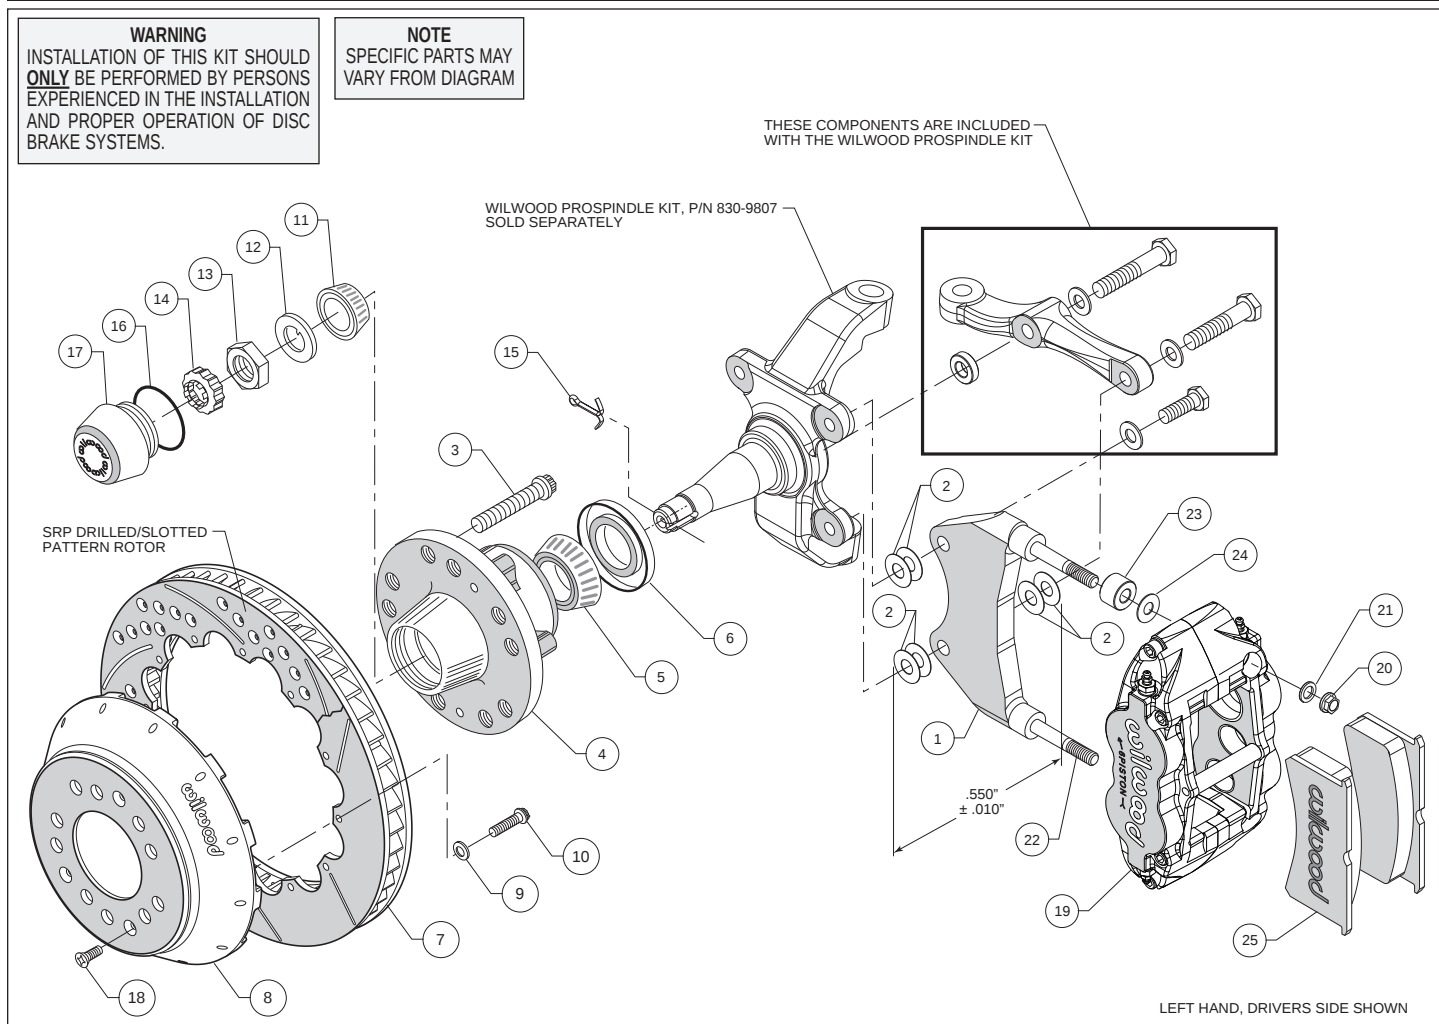
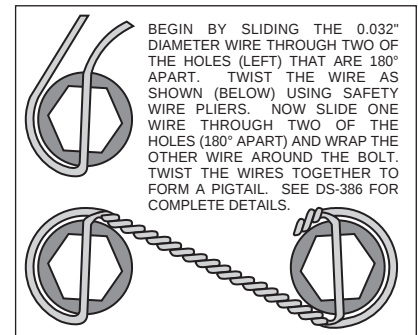

Figure 1. Typical Installation Configuration
Figure 3. Safety Wire Diagram
- Install the bracket on the inboard side of the spindle by sliding the 1.25" long bolt from the ProSpindle kit through a flat washer, also from the ProSpindle kit, through the top hole of the caliper mounting bracket (1) and into the upper rear spindle mounting ear hole, do not tighten at this time. Use two thin shims (2) between the bracket and spindle during initial trial fitting.
- Slide the 2.00" long bolt from the ProSpindle kit through a flat washer, through the rear (thinner end) hole on the steering arm, through two shim washers (2), through bottom hole of mounting bracket (1), through another two shim washers (2), and finally into the lower rear spindle mounting hole. The bracket (1) is positioned between the steering arm and the spindle for the bottom bolt installation. The bracket and shim washers, for the lower rear mounting must be a thickness of $.550 \pm .010$ ". Again, do not tighten.
- Install wheel studs (3) into the hub (4). Torque to 77 ft-lb. **NOTE:** There are two lug patterns of five holes each in the hub (5 x 4.50 and 5 x 4.75). Make sure of the correct hole pattern for the wheel application before installing the studs into the hub.
- With the larger I.D. side of the rotor (7) facing away from the hat (8), bolt the rotor (7) to the hat (8) through the backside of the rotor using washers (9) and bolts (10) provided in the configuration pictured in figure 1. Using an alternating sequence, apply red Loctite® 271 to the threads and torque bolts to 155 in-lb. For an added measure of security, the bolts may be safety wired using standard 0.032 inch diameter stainless steel safety wire as shown in Figure 3. Please refer to Wilwood's data sheet DS-386 (available at www.wilwood.com/Pdf/DataSheets/ds386.pdf) for complete safety wire installation instructions.
- Pack the large inner bearing cone (5) with high temperature disc brake bearing grease (available from your local auto parts store) and install into the backside of the hub (4).
- Install the grease seal (6) by pressing into the backside of the hub (4).
- Pack the small outer bearing cone (11) with high temperature disc brake bearing grease and install into front of hub (4). Slide the hub assembly (3, 4, 5, and 6) with outer bearing cone (11) onto the spindle. Secure using spindle washer (12), adjusting nut (13) and nut retainer (14). secure to spindle using cotter pin (15). Adjust bearing using a 12" wrench to tighten the adjusting nut while turning the rotor. When the rotor binds slightly, all the bearing parts are seated properly. Back of the nut 1/6 to 1/4 of a turn or enough to allow 0.001 to 0.007 end play. Lock the nut with a new cotter pin. **WARNING:** Failure to back off the adjusting nut may cause the bearing to run hot and be damaged, which could cause the wheel to lock or come off during operation, creating a risk of serious bodily harm.
- Install the o-ring (16) and the dust cap (17) onto the hub (4). Friction created by the o-ring (16) on the dust cap (17) keeps it from unscrewing on its own.
- NOTE:** This kit contains distinct right and left hand calipers that must be mounted in a specific direction, as described below. Lubricate the caliper mounting studs (22) with lightweight oil. Initially place two .035" thick shims (24) and one spacer (23) on each stud as shown in Figure 1. Mount the caliper (19) onto the bracket (1) using lock nuts (20) and washers (21), Figure 1. Ensure that the caliper is mounted so that the largest pistons are at the rotor exit end of the caliper, in relation to the direction of rotor rotation. Temporarily tighten the lock nuts and view the rotor through the top opening of the caliper. The rotor should be centered in the caliper. If not, adjust by adding or subtracting shims (2) between the bracket and the spindle, or between the spindle and the steering arm, whichever is applicable to gain the proper alignment. Always use the same amount of shims on both the two mounting bolts. Once the caliper alignment is correct, remove the bracket mounting bolts one at a time, apply red Loctite® 271 to the threads, and torque to specifications outlined in the ProSpindle kit.